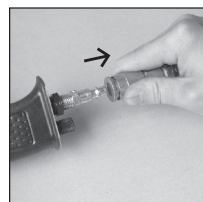

Figure 6
1. Disconnect the tool from air supply. (See Figure 6)